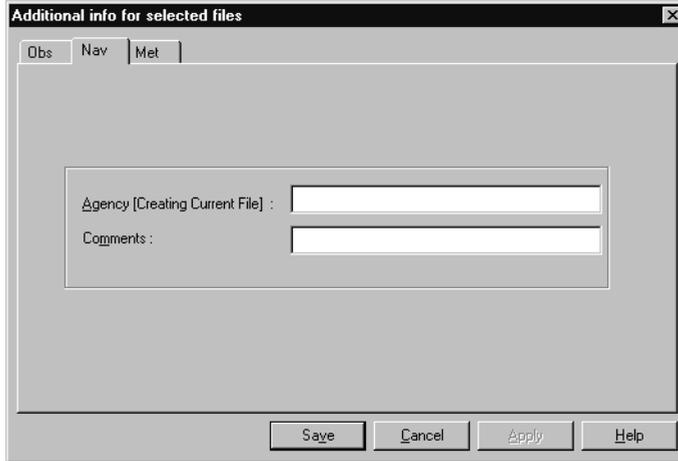

Figure B.11. Additional Info for Selected Files Dialog Box - NAV Tab
12. Click **Apply** to save the changes made to the **OBS** tab, and click **Nav** to switch to the **Nav** tab (Figure B.11).